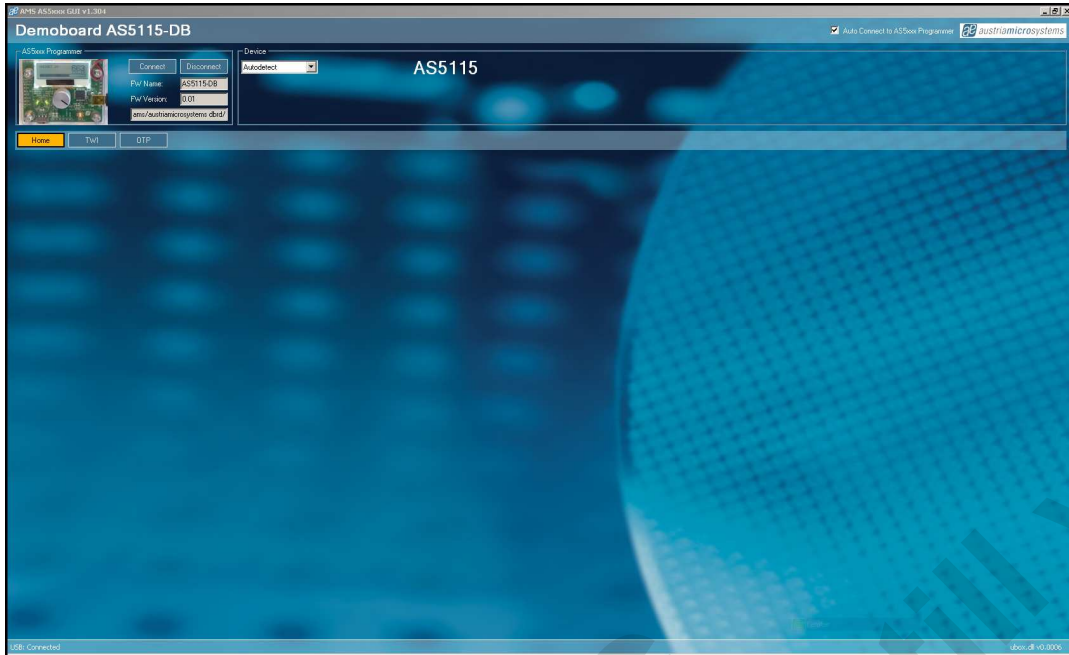

Figure 3: AS5000 GUI detected the AS5115 Demoboard
Figure 3 shows the main window of the GUI. On the top left corner, board information as firmware (FW) version and demoboard name declaration can be found.